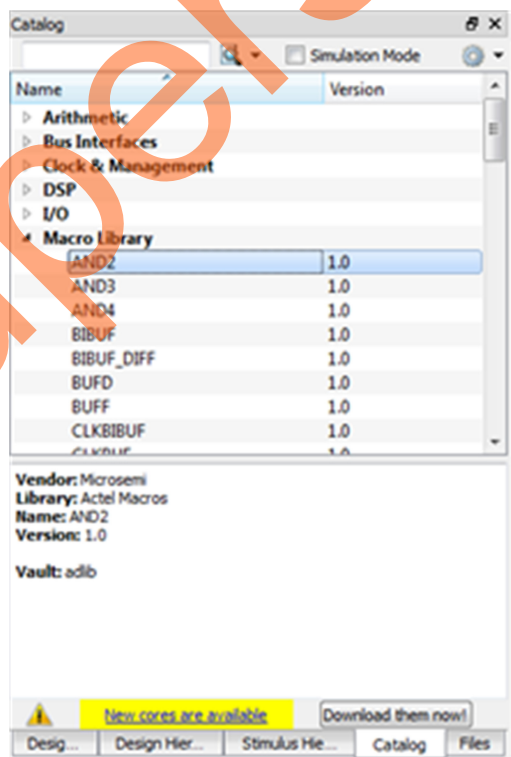

Figure 33 • Macro Library Component
6. In the **Macro Library** tab, select the **AND2** module, as shown in Figure 33. Drag two instances of the component onto the `EPCS_Demo_top` canvas.